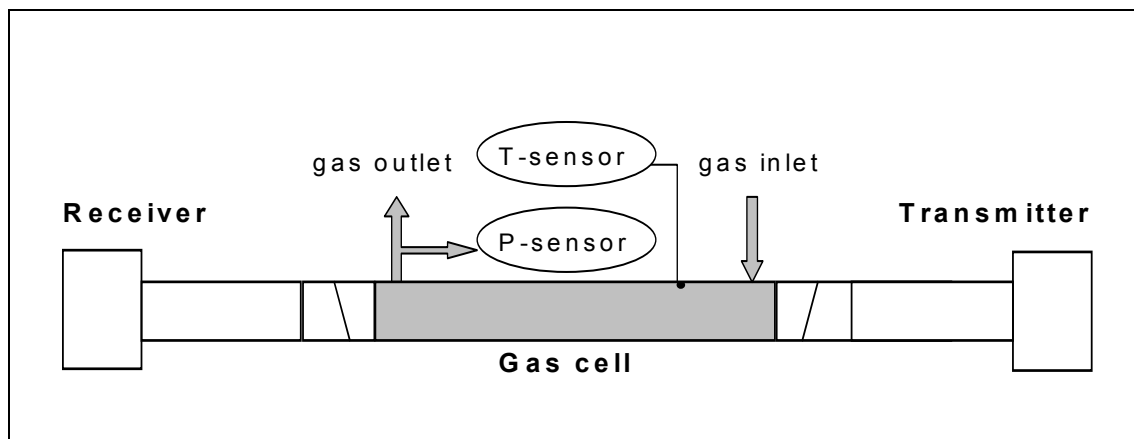

Figure 5-1: Calibration cell with monitor connected
2. Connect the transmitter and receiver units to the test cell as shown in Figure 5-1. Run the service program (ref. Chapter 0 for start-up).